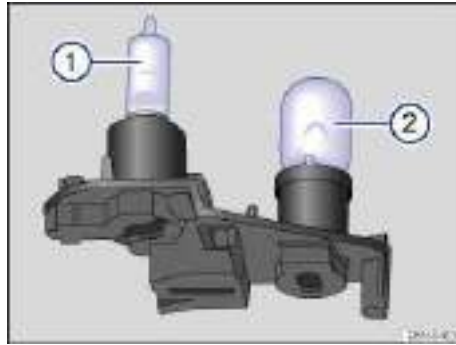

Fig. 205 Bulb holder with backup light bulb 2.
| 6. | Replace burned out rear light bulbs ⇒ fig. 205 (1) or (2) with bulbs that are identical to the ones being replaced. |